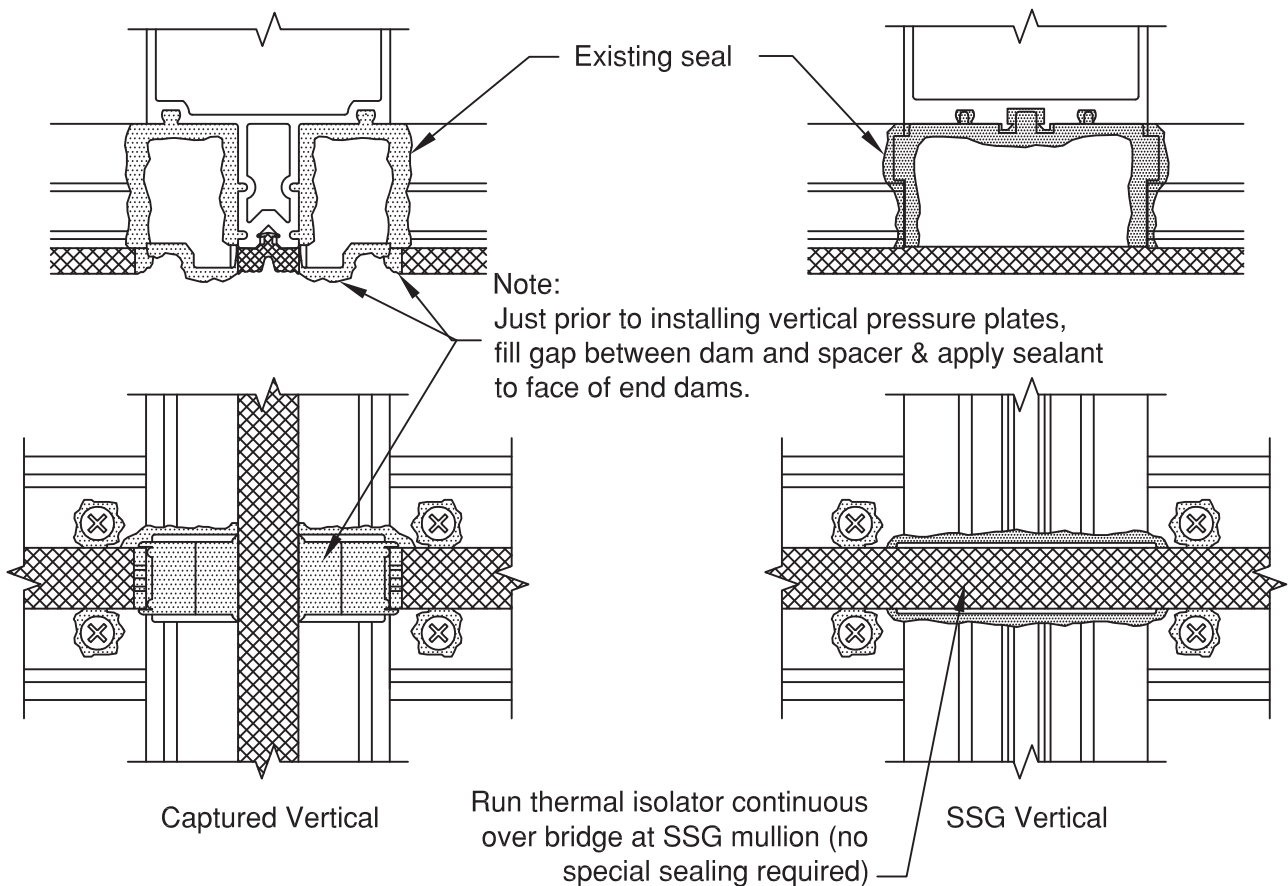

Figure 16
3.9 Prior to installing vertical pressure plates, apply sealant to the face of each horizontal zone plug. **SEE FIGURE 16.** Vertical pressure plates must be installed before the horizontal pressure plates are applied.